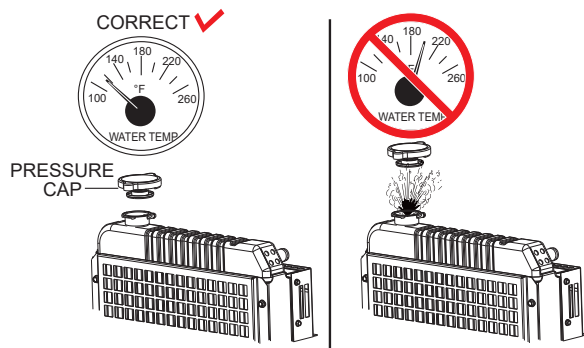

Figure 183. Radiator Pressure Cap Removal
1. Remove the **radiator pressure cap** (Figure 183) only when the coolant temperature is below 120°F (50°C).